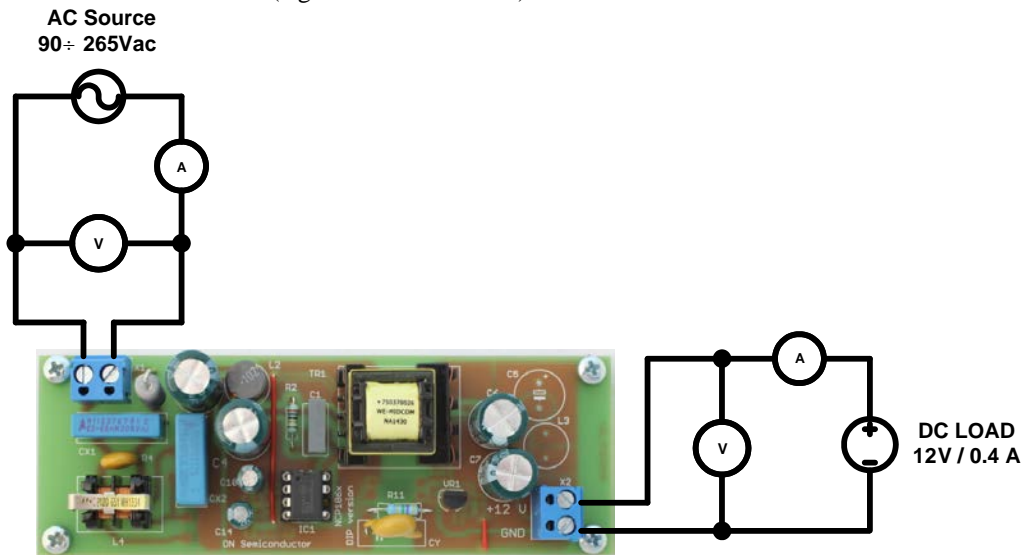

Figure 1: Test Setup for Flyback Converter
1. Connect the test setup as shown in Figure 1.